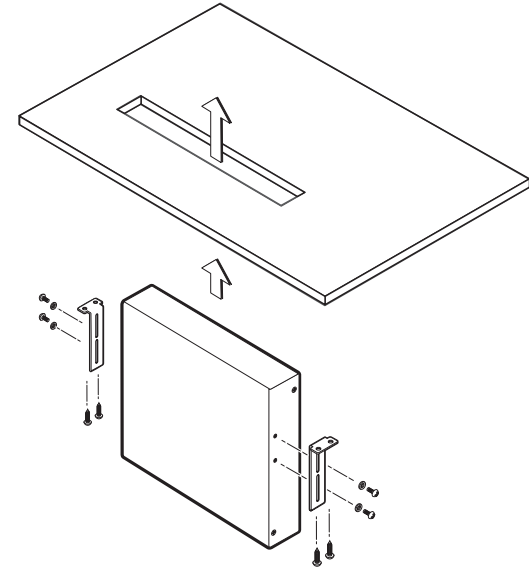

Figure 2-4 — Through-desk mounting the interface
2. Secure the brackets to the interface with the provided machine screws (figure 2-4). Leave the screws slightly loose.